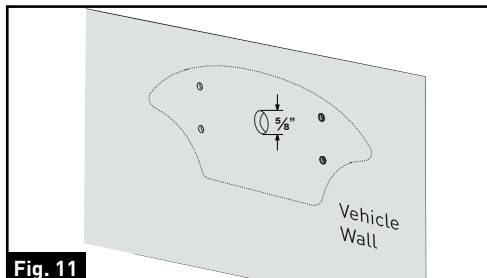

Fig. 11
2. Drill a  $\frac{5}{8}$ " center hole on the vehicle wall using a  $\frac{5}{8}$ " hole saw. (Fig. 11)